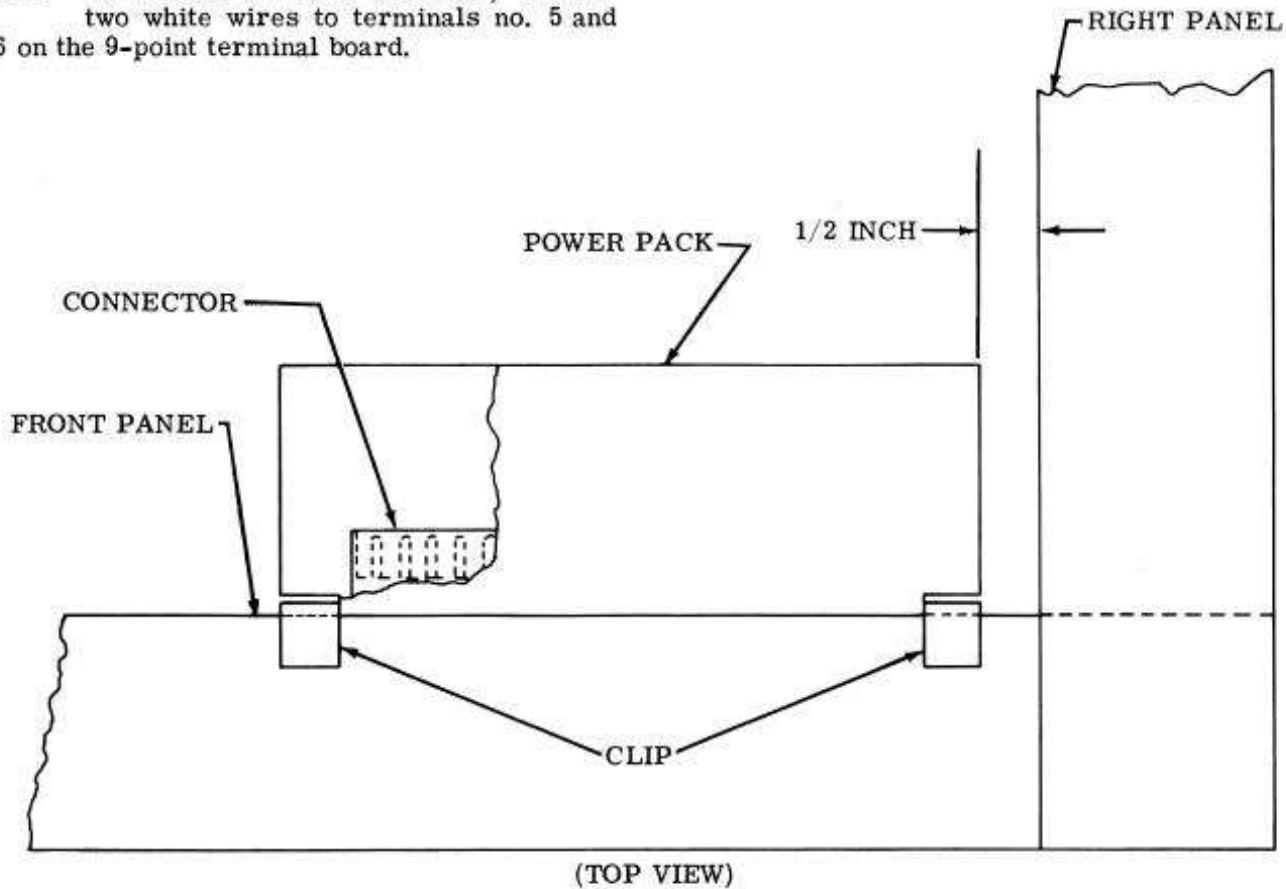

Figure 11 - Power Pack Assembly
6.01 The power pack assembly (Figure 11) is snapped on, with two clips assembled to the power pack, to the front panel of the stand. Position the power pack so that it shall be spaced approximately 1/2 inch from the right panel of the stand.